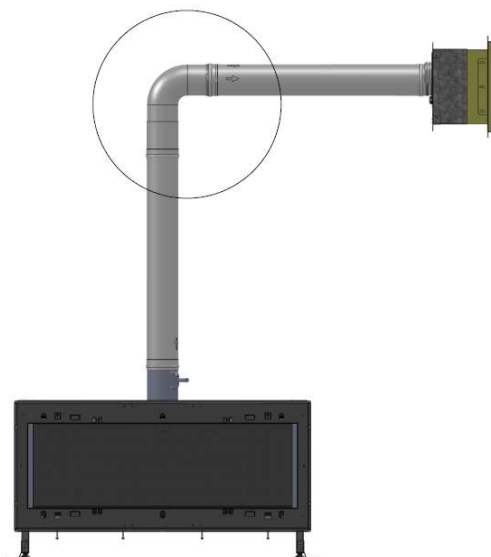
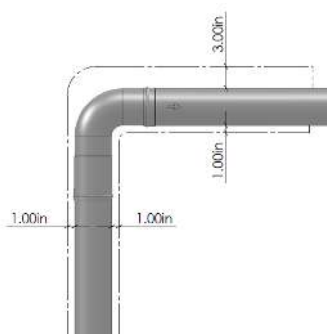
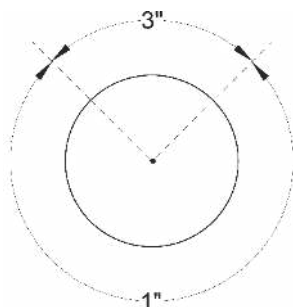

Figure 20: Chimney Course Schematic
Figure 21: Required Clearances Around Chimney
Figure 22: Required Clearances Around Chimney – Cross-section
- a. From the firebox to termination, consider the following details. See *Figure 20, Figure 21, and Figure 22 on page 25*: